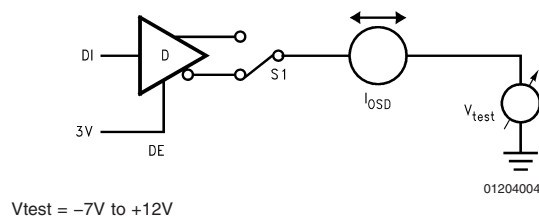

FIGURE 4. Driver  $I_{OSD}$
| I OSD                    | Driver Output Short-CircuitCurrent                               | V O = +12V                                                                                                          |           | (485) Figure 4         |          |      | 200    | +250 | mA    |